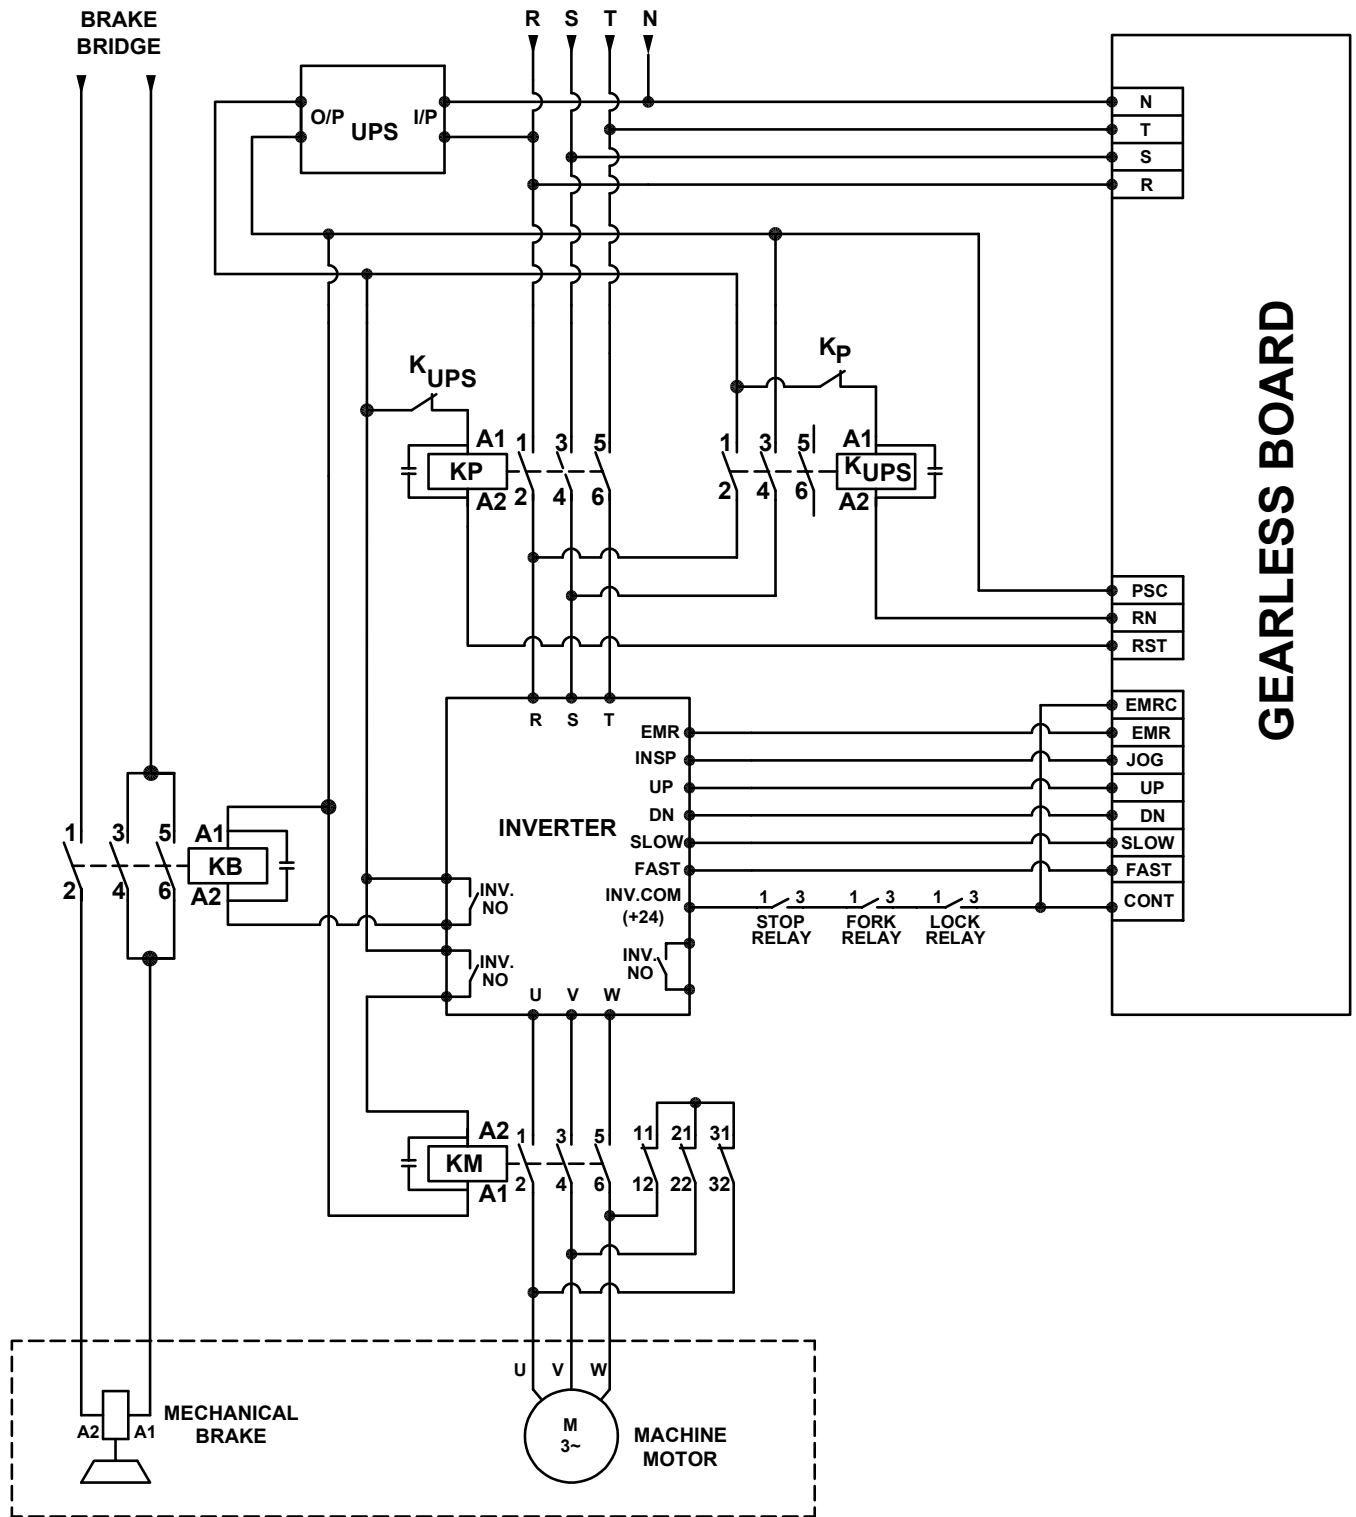

Figure 20.0 - Inverter Motion Signals and Power Supply Connections
The terminals of the Inverter Motion Signals and Power Supply are connected as illustrated in Figure 20.0.
- The operation of the inverter is controlled either through the selection of the three-phase power supply or the emergency UPS device, based on the actions taken by the board according to phase failure status and indications illustrated in Figure 20.0.
- Figure 20.0 illustrates the connection of the XC-GL series board with the inverter, the UPS device, the machine motor, and the braking system.